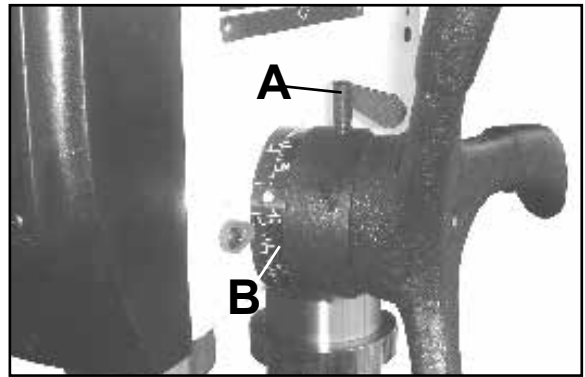

Figure 17
3. Turn the depth stop collar clockwise until the collar stops (B-Figure.17).
1. With the spindle in the up position, loosen the depth stop collar lock (A-Figure.17) as shown.
2. Turn the depth stop collar clockwise until the pointer reads the desired drill depth on the scale (B-Figure.17).